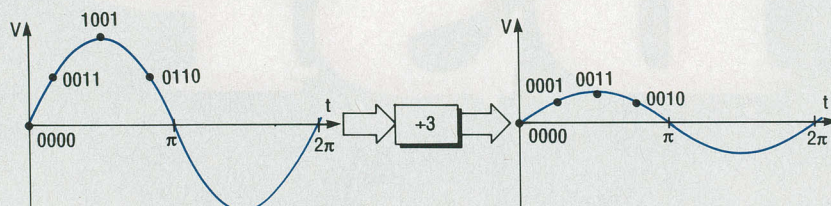

FIG. 2—A HYPOTHETICAL DSP VOLUME CONTROL would divide each signal sample by the same number to reduce it in strength.
Referring to the schematic in Fig. 2, The Hall-effect generators (IC3 and IC4) are three-terminal linear devices which are driven by a regulated 5-volt supply provided by fixed-voltage regulator IC1. The output of each of the sensors is a DC voltage that varies linearly from a quiescent value of 2.5 volts as their position with respect to the lines of force of the magnetic field changes. A typical sensor has an output-voltage sensitivity of about 1.3 millivolts per Gauss.
**FIG. 2—TWO HALL-EFFECT GENERATORS** provide twice the sensitivity of a single sensor. The two devices are physically oriented in opposite directions so that the change in output voltage of one sensor will be positive while that of the other will be negative as the compass is rotated.
Let's take a very simple example. Suppose you wanted a digital volume control, which might, under certain primitive circumstances, be construed as a kind of DSP. To cut the volume of a signal in one third, all you would have to do would be to divide every binary number in its digital representation by three (Fig. 2). The voltages represented by the resulting numbers would be one third their original value, and the amplitude of the reconstructed analog signal would be one third that of what you started with. By changing the divisor, you could vary the amplitude accordingly in either direction.